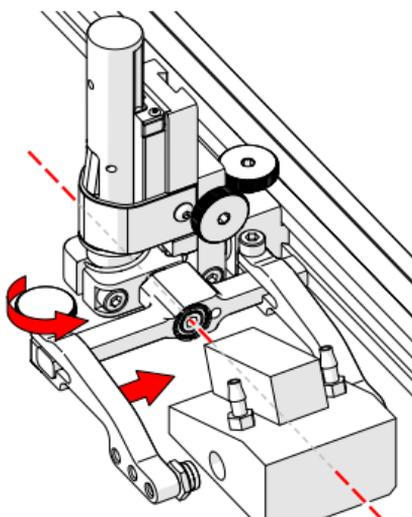

Fig. 68 - Adjust outer arm
5. Loosen the probe holder arm adjustment knob (Fig. 68) and slide the probe holder arm along the yoke pinching the wedge in place.